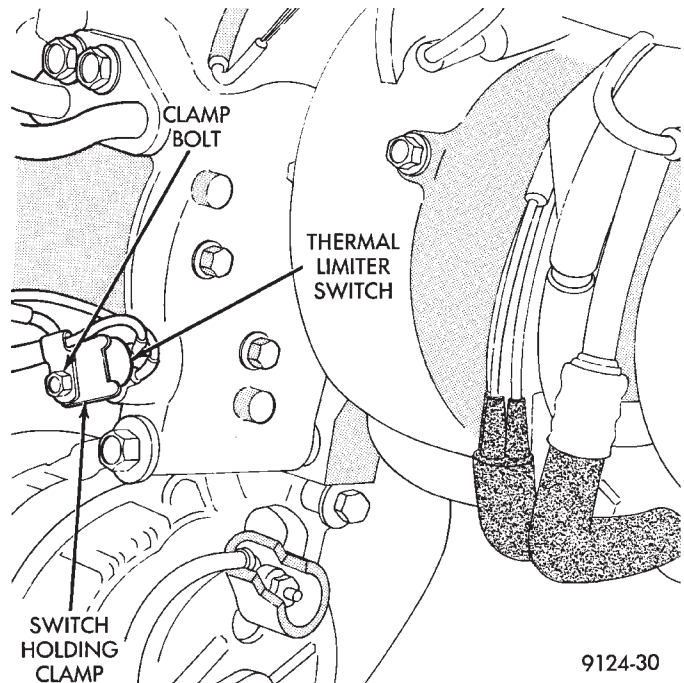

Fig. 5 Thermal Limiter Switch
- (1) Disconnect wiring connectors from switch.
- (2) Remove the bolt retaining the switch holding clamp and the switch to the side of the compressor (Fig. 5).
- (3) Pry the switch from compressor case with a screwdriver.